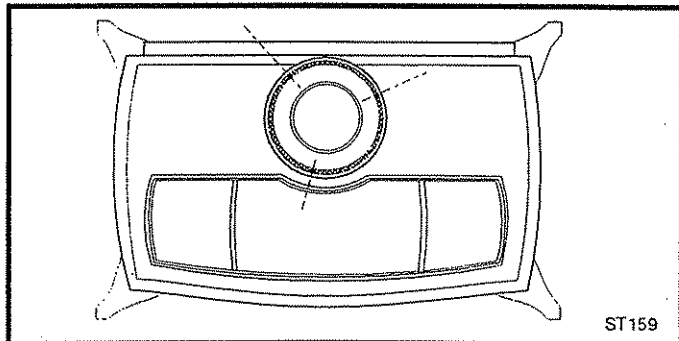

Fig. 27 Outer flue collar pilot hole locations.
1) Orient the vertical seam to the rear and insert the crimped end of the outer pipe into the flue collar. Push it down as far as it will go and use a pencil to mark flue collar hole locations on the pipe as indicated in Fig. 27. Use a .234 bit to drill three holes into the crimped end at the marked locations.